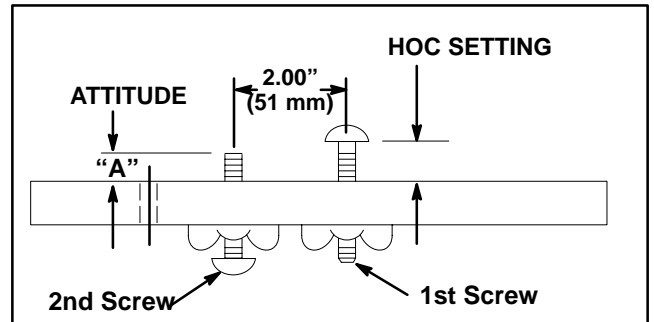

Figure 13
For setting consistent cutting unit attitude, Toro strongly recommends using a two-screw gauge bar, Toro part no. 98-1852 (Fig. 13). The first screw is set for height-of-cut, and the second screw is set for cutting unit attitude. The second screw setting is an easy method of transferring cutting unit attitude to all cutting units on a machine.
1. Using a two-screw gauge bar, Toro part no. 98-1852, set first screw to desired Height-of-Cut. This setting is from the bar face to the underside of the screw head (Fig. 13).